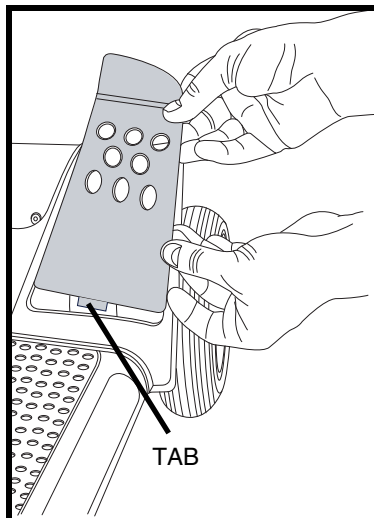

Figure 10. Front Fender Panel
2. Push through the hole to separate the piece from the Travel Scooter. See figures 10, 11, and 12.
**NOTE:** When installing the front and rear fender panels, make sure the tab at the bottom of each panel is inserted into the tab opening before securing the panel. See figure 10.